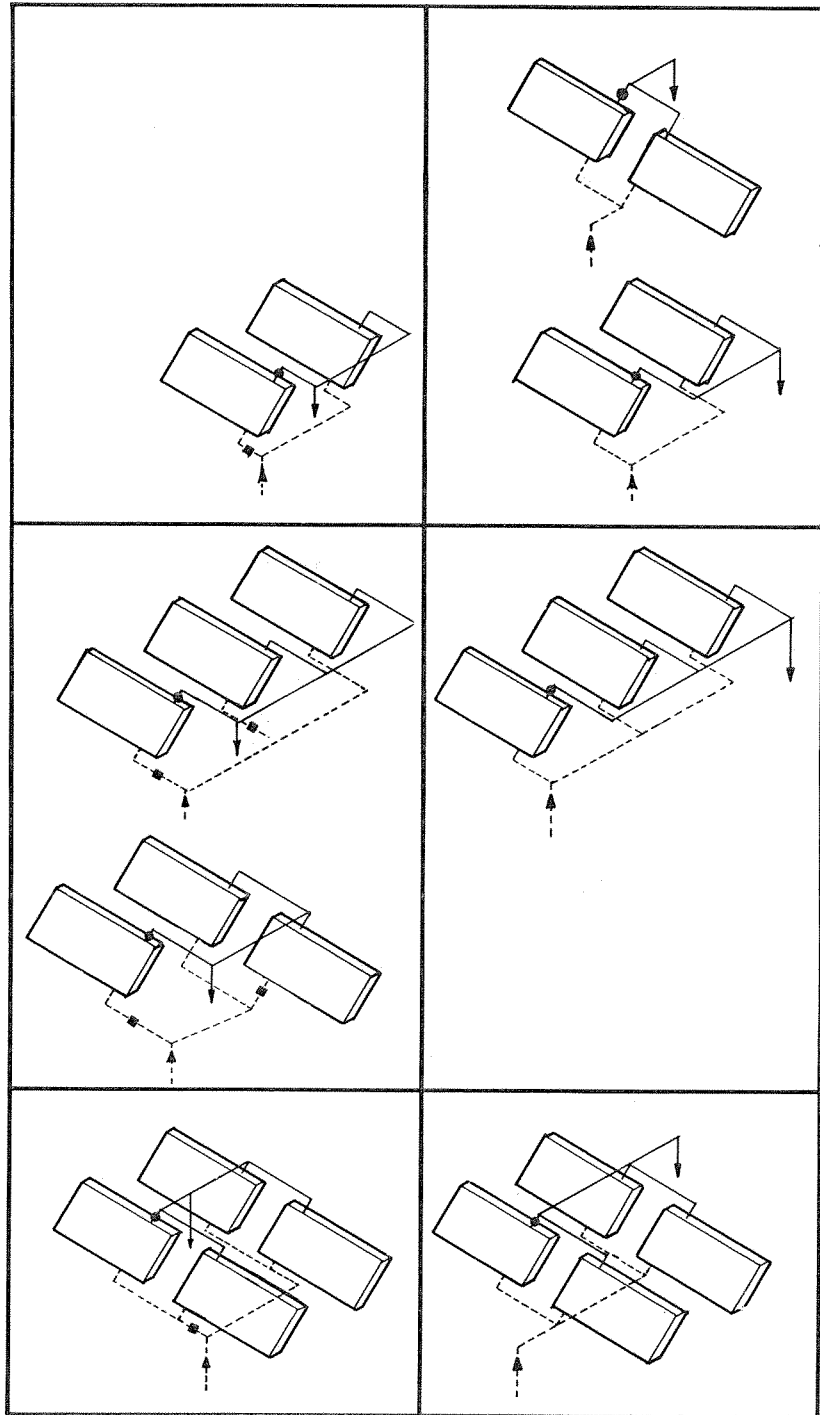

Figure 2.12
1. Figure 2.12 indicates some piping layouts for 2, 3 and 4 collectors. It is desirable that flow be equal in each collector. This may be accomplished by equalizing pipe lengths to each collector or by using balancing valves.